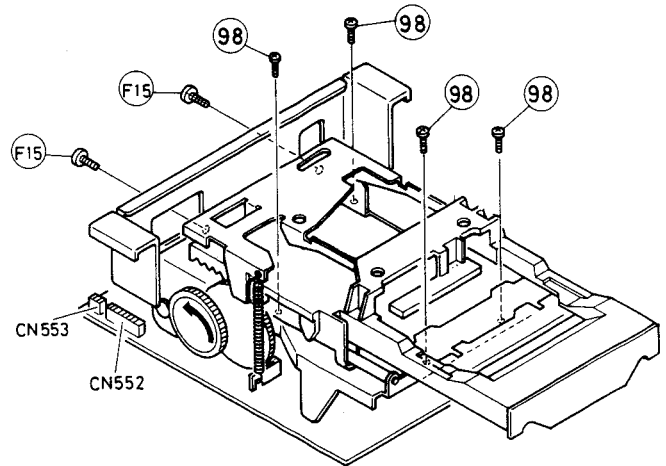

Fig. 2-9
1. Rotate the gear and take out the cassette tray toward the front. (arrow in Fig. 2-9)
3. Remove the 4 screws (98) of the cassette compartment assembly chassis.